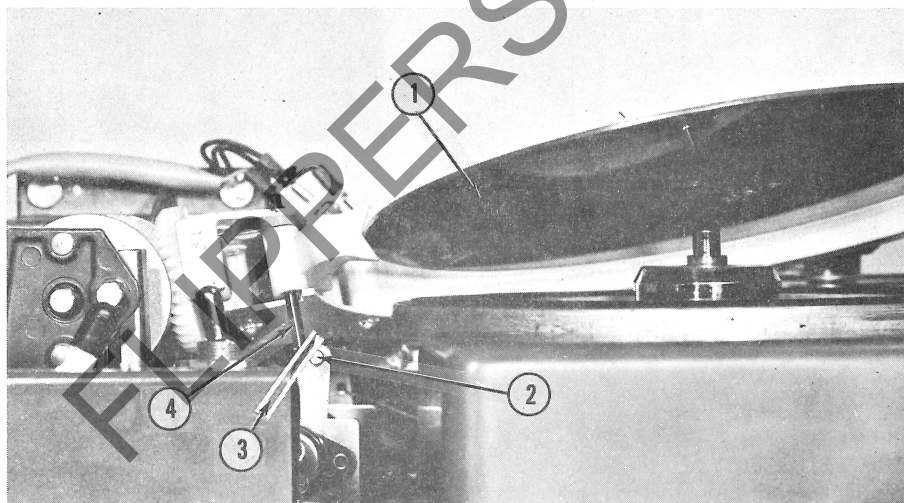

FIGURE 1
Select A-4 (D-1 Model 3460), turn service switch off to stop record changer in position illustrated in Figure 1. There should be 1/32" clearance between the Record Clamp Release Pin (item 2) and the Record Clamp Roll Pin (item 4) as illustrated at item 3.